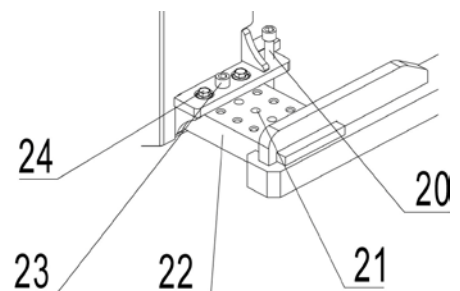

Fig.16: Adjust the legs
- Remove the safety bolt (10).
- Release fork positioning device (11).
- Tighten the positioning bolt (23) after adjusting the legs.
- When adjusting the legs, please pay attention that the number of positioning holes (21) exposed on each side of the legs should be same. (as shown in Fig. 16, if one side has 3 positioning holes(21), the other side should also be 3).
When adjusting the legs, please pay attention that the number of positioning holes (21) exposed on each side of the legs should be same. (as shown in Fig. 16, if one side has 3 positioning holes(21), the other side should also be 3).